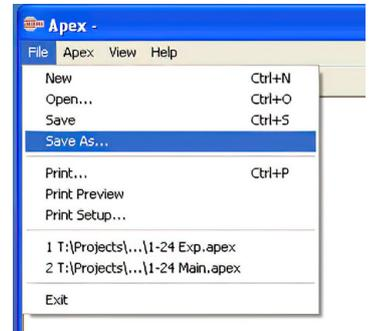

Fig 14
1. Choose: 'File' > 'Save As' [Fig. 14].